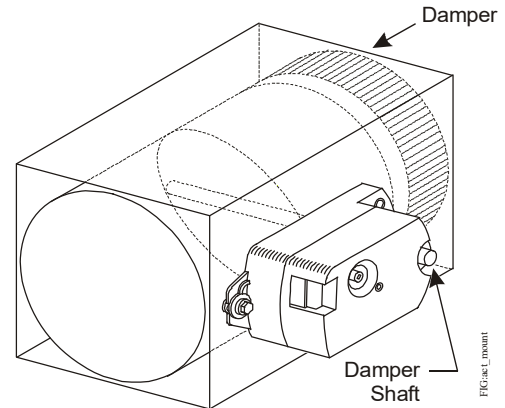

Figure 4: Mounting the actuator onto the damper shaft
3. Make a note of the rotation range and direction, either clockwise (CW) or counterclockwise (CCW), required to close the damper.
5. Position the actuator onto the damper shaft so that the damper shaft protrudes through the actuator coupler, as illustrated in Figure 4.